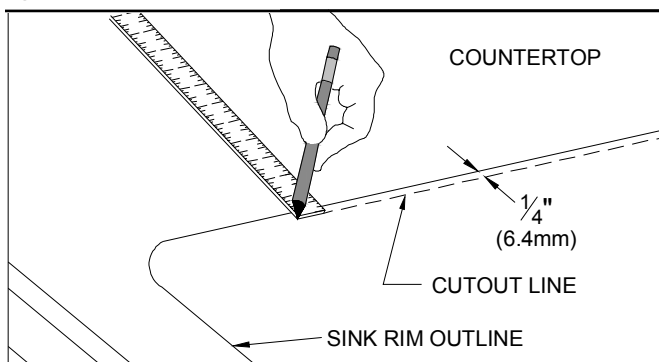

Figure 30C
- Using a ruler, measure  $\frac{1}{4}$ " inside the sink rim outline and draw a line completely around the entire outline. (FIG. 30C)